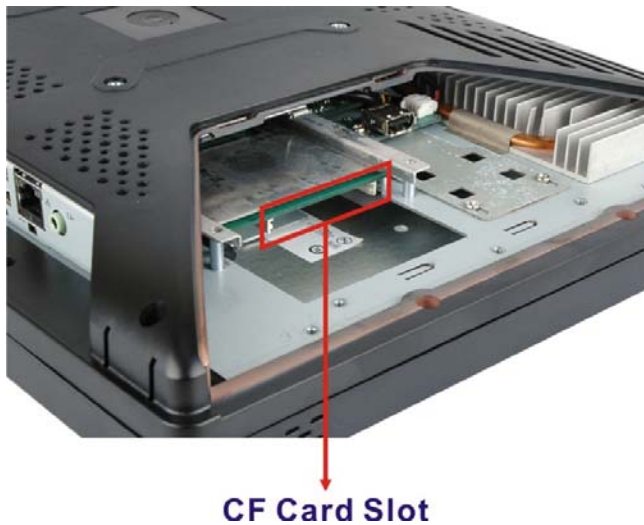

Figure 2-5: CompactFlash® Slot Location
Step 2: Locate the CompactFlash® slot as shown in **Figure 2-5**.